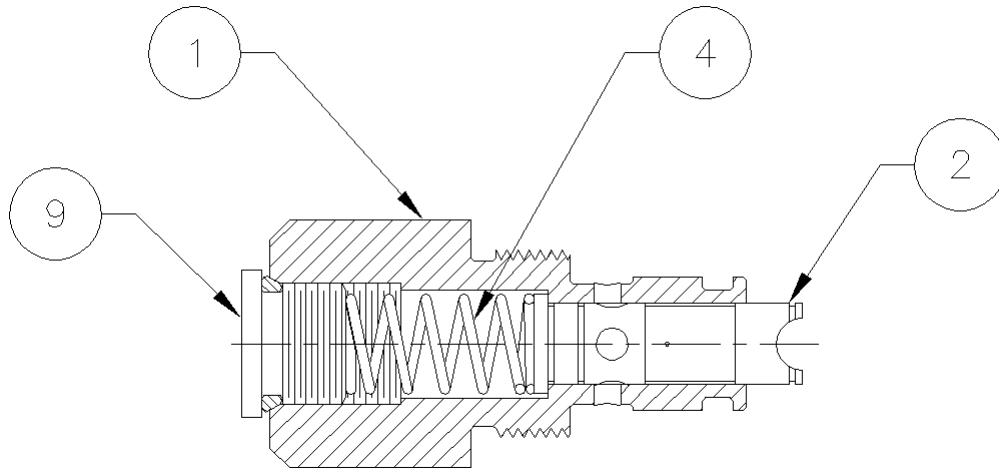

Figure D-2
- Place the plunger (2) (Figure D-2) into the plunger housing (1). Place the spring (4) on top of the plunger (2). Coat the o-ring on the o-ring plug (9) with STP Oil Treatment. Screw the o-ring plug (9) into the plunger housing (1) on top of the spring (4) and tighten to 30 in-lb. torque.